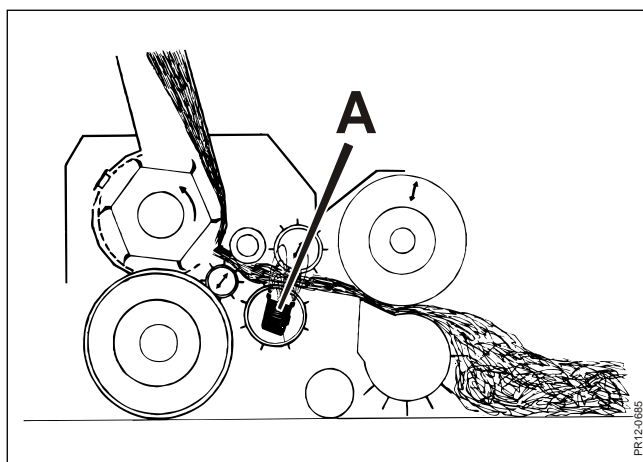

Fig. 5-1
**Fig. 5-1** The machine is equipped with a magnetic tub **A** (sensor) which is mounted in the lower front feed roller. The function of the magnetic tub is to detect magnetic metal (metal containing iron).